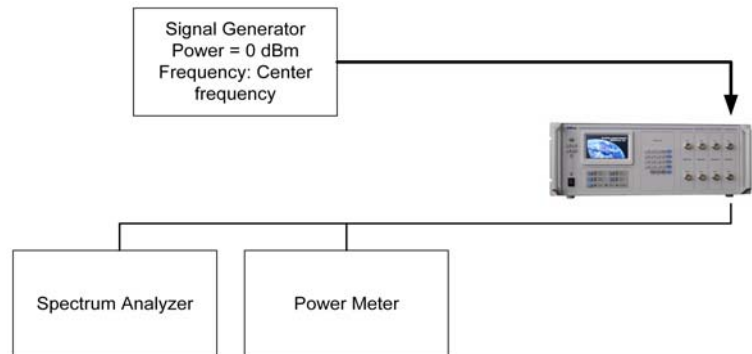

Figure A-1 Frequency Range Test Configuration
1. Connect the equipment as shown in Figure A-1. The SLE900 should be in static mode, with delay set to 2 ms and all other parameters set to 0.
1. Connect the equipment as shown in Figure A-1. The SLE900 should be in static mode, with delay set to 2 msec and all other parameters set to 0.
1. Connect the equipment as shown in Figure A-1, with the frequency counter replacing the spectrum analyzer. Set the SLE900 to static mode, with delay set to 2 msec and all other parameters set to 0.